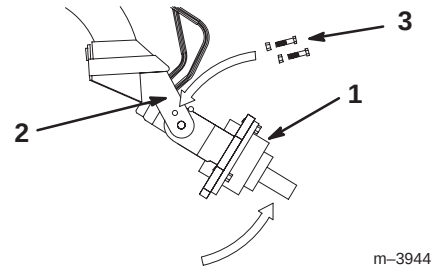

Figure 2
3. Manually rotate the auger drive head up, until you can slide two 5/8"–11 x 3–1/2" bolts into the holes on both sides of the cradle arms, securing the drive head. Lightly secure each bolt with a 5/8"–11 nut (Fig. 2).